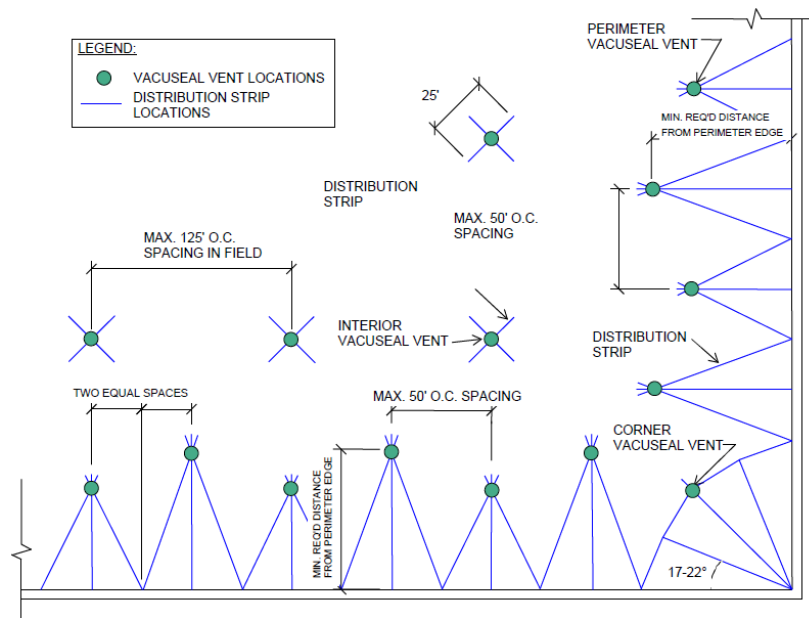

Figure 1. Distribution Strip Layout for VacuSeal™ Roof Vents
- 1.6.3.2 See Figure 1 for an example of the distribution strip layout for the perimeter VacuSeal™ roof vents.
1.6.3.4 At interior vent locations, two (2) 25' long distribution strips shall be laid out in an "X" pattern with the VacuSeal™ Roof Vent at the center, as shown in Figure 1.